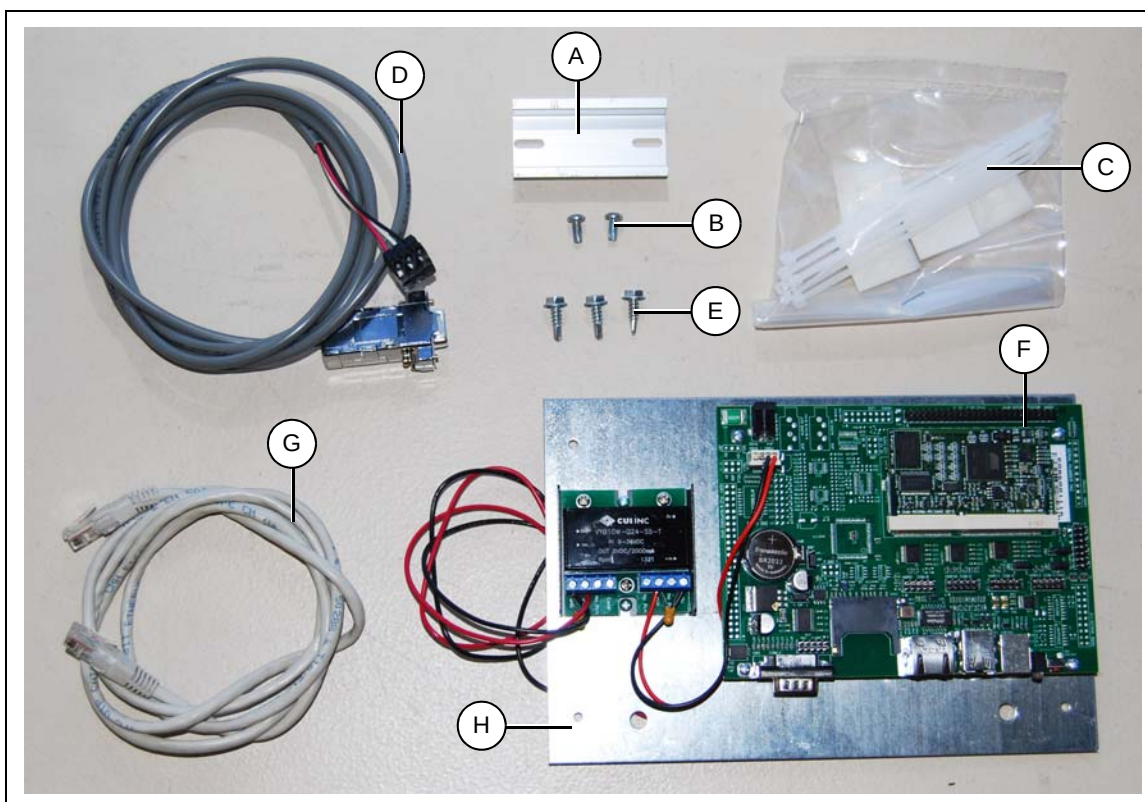
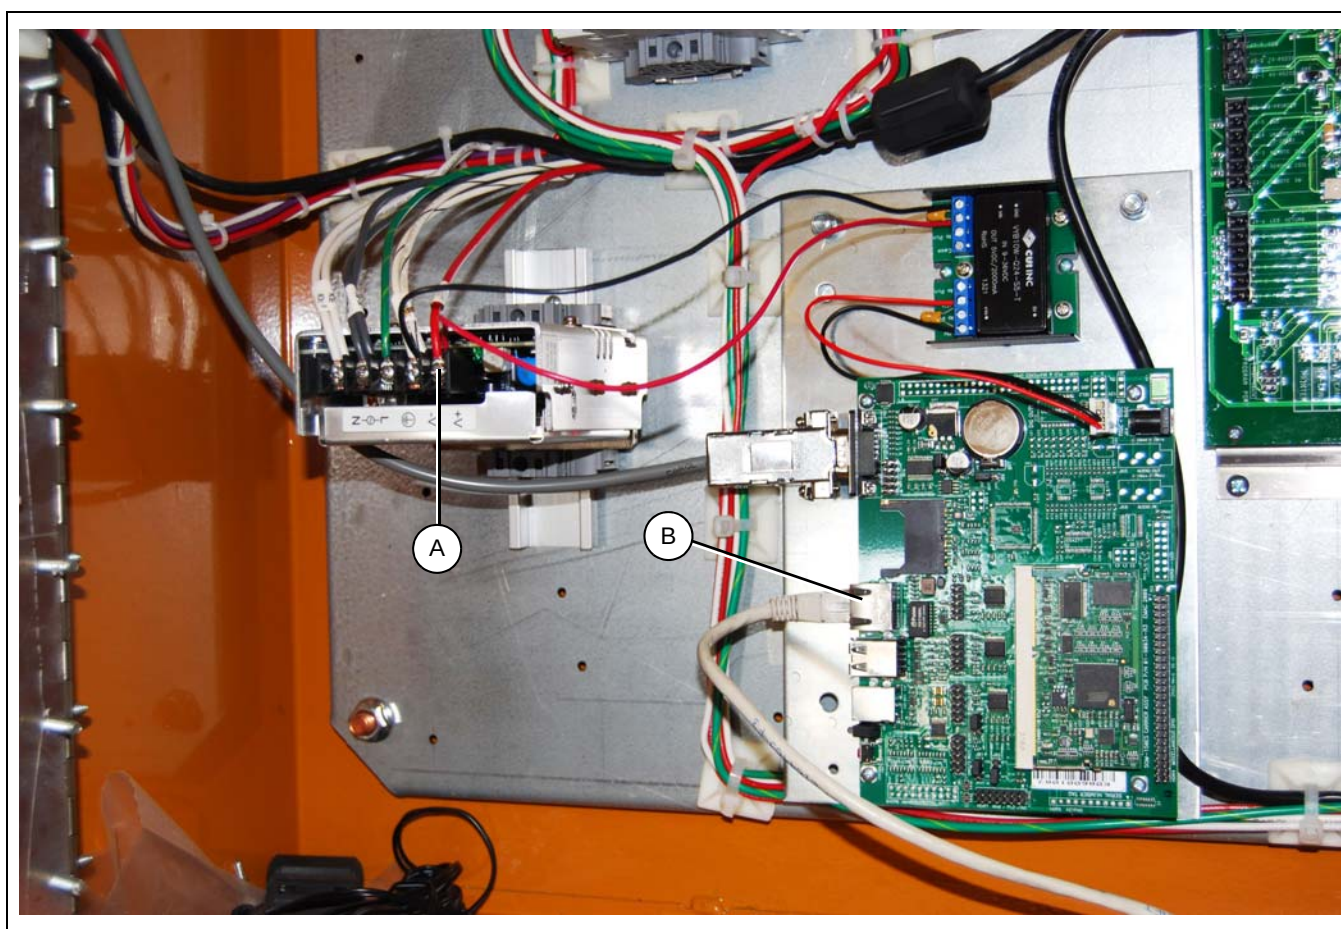
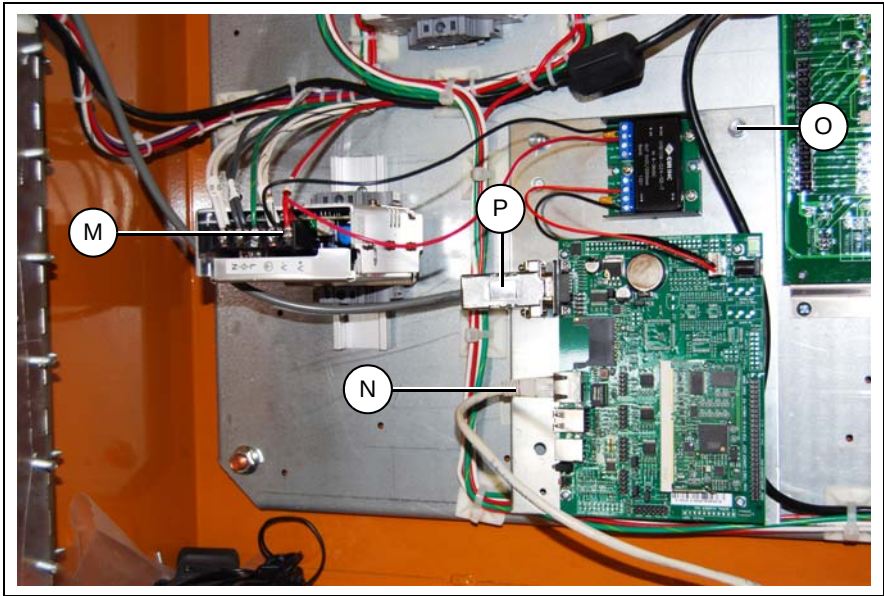

Figure 4B WatchDog System for Customer LAN/WAN Connection (Part # VIS-WATCH-IC)
Figure 5C Mounting of Cellular MODEM
Figure 5J Looking Inside Lower Control Box (Ethernet Cable Connects to Cell MODEM)
2. Internet Connection via Cellular MODEM (Part # VIS-WATCH-IC) - This option allows the user to connect their dryer to the Internet using a cell MODEM. (See Figure 4B on Page 12.) This type of MODEM can be purchased from a variety of suppliers and for a variety of network providers. See Appendix C on Page 42 for more information. It is the customer's responsibility to acquire a MODEM and configure/provision it for operation.
3. Customer LAN Connection (Part # VIS-WATCH-IC) - This option is can be used by a customer who already has a Local Area Network. (See Figure 4B on Page 12.) A hardwired connection from their network to the WatchDog board is required to "see" the WatchDog System on their network. Proper setup will also allow the WatchDog System to be viewed from anywhere that has access to the Internet. It is the customer's responsibility to provide a proper connection to their network. This option is the most difficult to configure and will probably require outside assistance from an entity with considerable networking experience. While GSI's Technical Support group can offer suggestions, GSI is not responsible for the required connection.
The user can use this setup (GSI Part # VIS-WATCH-IC) to make their Vision Dryer visible on the Internet by providing a connection to the Internet. This connection can be provided using a Cellular MODEM or by providing a hardwired Ethernet connection to the user's LAN. The cellular MODEM style setup allows the customer's dryer to connect to the Internet via a cell MODEM, located at the dryer. The customer's dryer is then accessed over the Internet via a static IP address. Figure 4B on Page 12 shows the components included in this setup. The components are listed as follows:
2. Mount WatchDog hardware inside dryer's lower control box. The metal mounting plate (Figure 4B on Page 12, Ref # H), which the WatchDog Board is affixed to, mounts on the right hand wall of the control box, looking into the box, using the 1/4" nuts supplied (Figure 4B on Page 12, Ref # E). (See Figure 5J on Page 21.)
3. Mount the Cellular MODEM in the lower control box near the moisture control board, using the 3" piece of DIN Rail (Figure 4B on Page 12, Ref # A) and the two (2) self-tapping 1/4" screws. (See Figure 5C.)
5. Connect WatchDog Board to the Vision Dryer’s Display I/O board using the provided modified serial cable (Figure 4B on Page 12, Ref # F). Care should be taken that the cable is plugged into the Display I/O board correctly - Inspection will reveal it is designed to be inserted (polarized) in only one direction. (See Figure 5E on Page 19.)
- 6. Connect power supply wire between WatchDog Board and Cellular MODEM power connections. The cable (Figure 4B on Page 12, Ref # D) has a barrel style connector at the end that plugs into the WatchDog board (See Figure 5J on Page 21) and two (2) bare wires at the other end to place into the Cellular MODEM power terminals. The order of the wire connections makes no difference.
- 7. Connect cellular MODEM power terminal (positive, pwr +) to J1-01 on the moisture control board. Connect cellular MODEM ground terminal (GND) to J1-02 on the moisture control board. See Figure 5F for MODEM connections and Figure 5C on Page 17 for moisture control board connections.
5. Connect power supply wire between WatchDog Board and the 12 VDC power supply using the red and black wires coming from the power supply as shown in Figure 5C on Page 17. The black wire connects to 12 VDC- on the 12 VDC power supply and the red wire connects to 12 VDC+ on the 12 VDC power supply. The 12 VDC power supply is located in the back of the lower control box and is pictured in Figure 5C on Page 17.